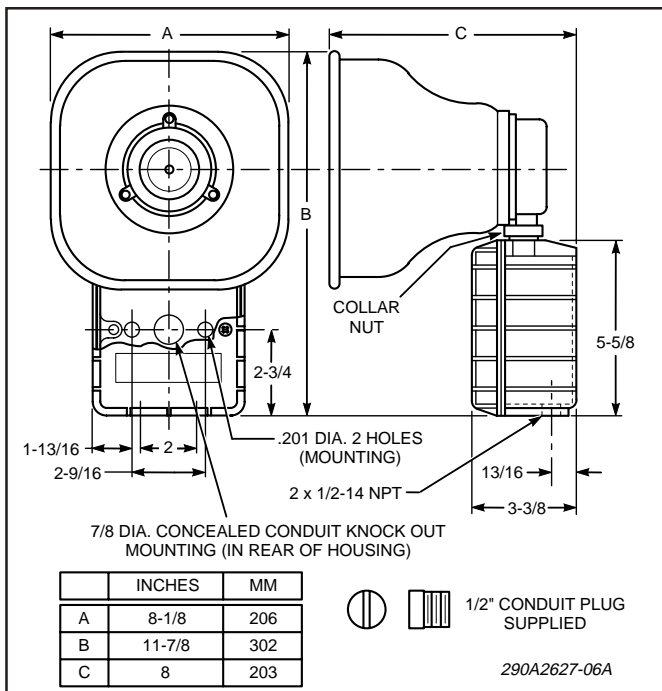

Figure 1. Model SPHP Speaker Dimensions.
B. Mounting Arrangements (see figure 1).
c. Using the mounting holes (two (2) inside housing) as a template, scribe drill position marks on the mounting surface. See figure 1 for mounting hole locations and dimensions.
f. Reposition speaker projector if necessary to obtain desired sound coverage. Loosen collar nut (see figure 1) and move projector to desired position.
e. Using the two (2) mounting holes as a template, scribe drill position marks on the mounting surface. See figure 1 for mounting hole locations and dimensions.
g. Reposition speaker projector if necessary to obtain desired sound coverage. Loosen collar nut (see figure 1) and move projector to desired position. Install two 1/2" conduit plugs in the unused bottom entryways (one plug supplied).